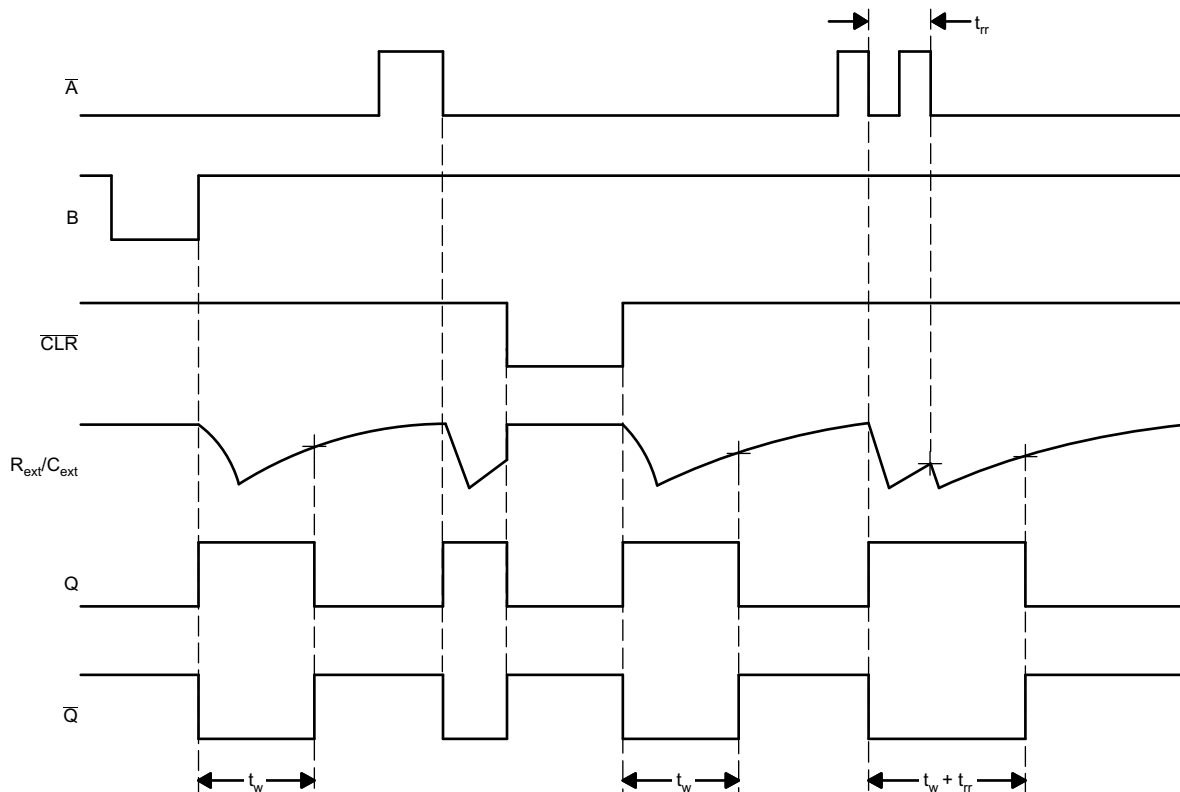

Figure 1. Input and Output (I/O) Timing Diagram
over recommended operating free-air temperature range, $V_{CC} = 3.3\text{ V} \pm 0.3\text{ V}$ (unless otherwise noted). See Figure 1 and the circuits in the Parameter Measurement Information section.
over recommended operating free-air temperature range, $V_{CC} = 5\text{ V} \pm 0.5\text{ V}$ (unless otherwise noted). See Figure 1 and the circuits in the Parameter Measurement Information section.
When triggered, the basic pulse duration can be extended by retriggering the gated low-level-active (\overline{A}) or high-level-active (B) input. Pulse duration may be reduced by taking \overline{CLR} low. The input-output timing diagram (Figure 1) shows pulse control by retriggering the inputs and early clearing.